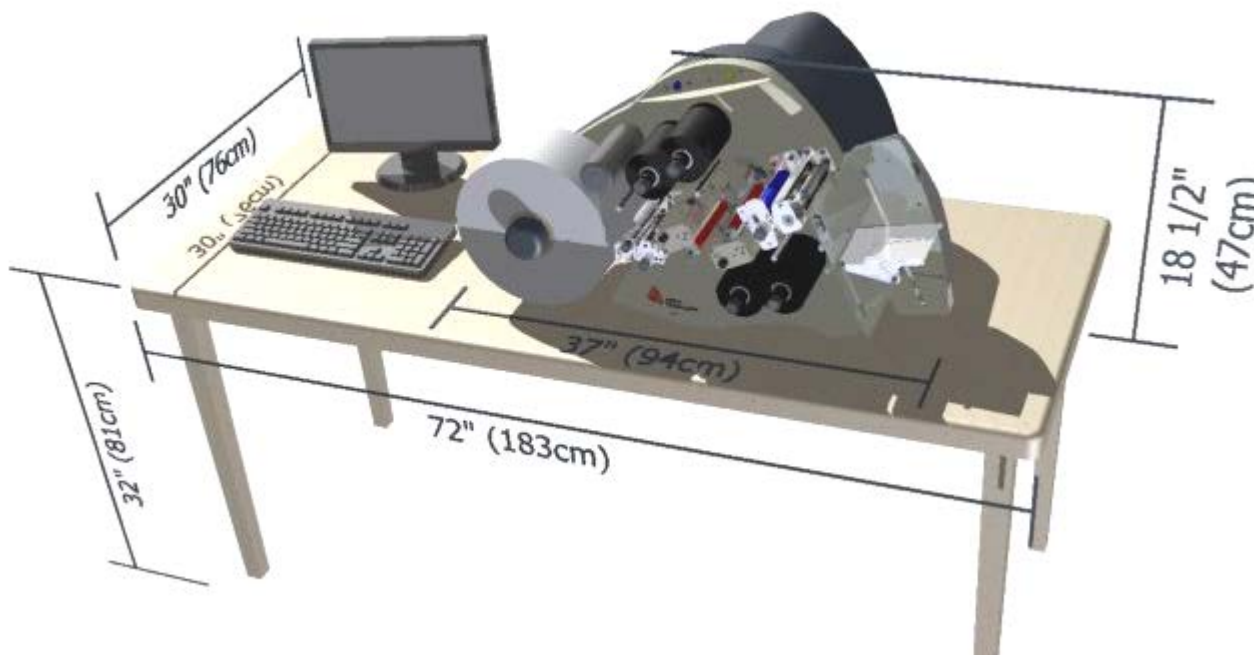

Figure 1. Recommended Workstation Layout
The SNAP 700 printer weighs 60 pounds (27.2 Kg) and requires a table of sufficient quality and strength to handle this load. The printer requires an area of approximately 72" wide x 30" deep x 32" high (1.8 m x 76 cm x 81 cm). The host PC (if used) and any printer options will increase the required area. AVERY DENNISON recommends using an industrial type worktable. Refer to Figure 1 below.
1. Physical demands on the operator will dictate proper height of the table supporting the printer. Ensure the operator has comfortable access to the printer. Refer to Figure 1.
1. Look at the line voltage level shown in the window on the back of the printer (see Figure 1). If the number in the window matches the appropriate voltage for your location, you can proceed with setting up your printer.
- In the U.S.A., call (937) 865-2123.